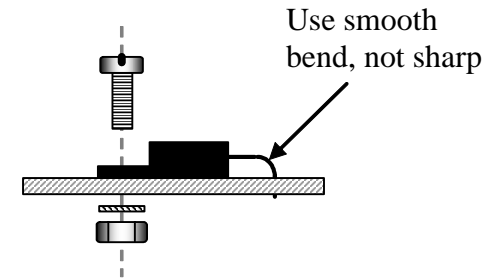

Figure 4-4
- Install U4 (LM2930T-8) and U5 (78M05, 7805T, L7805, etc.), forming the leads as indicated (Figure 4-4). Fold the pins over the shaft of a small screwdriver to create smooth bends. After inserting the leads into the proper holes, secure each IC with a 4-40 x 3/8" (9.5 mm) machine screw, #4 lock washer, and 4-40 nut. (These regulators may have either plastic or metal mounting tabs.)